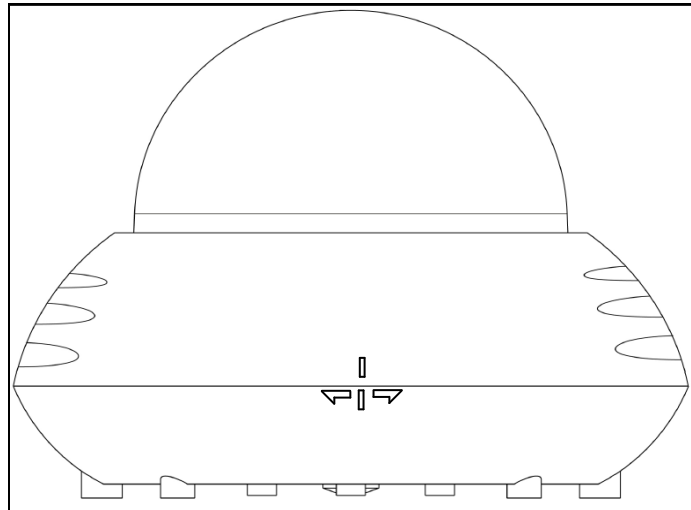

Figure 3 - Align the markings to attach the dome to the base
8. Reconnect the main housing to the mounting base by aligning the markings on the side of each component as shown in Figure 3. Twist the main housing clockwise relative to mounting base.